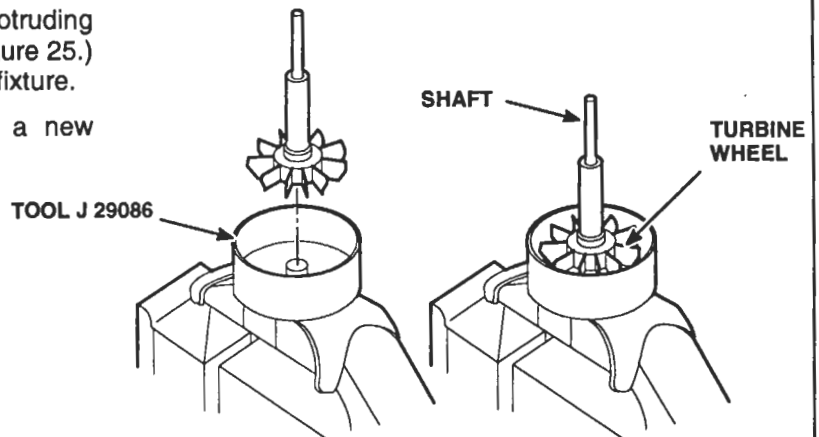

Figure 25. Shaft Assembly in Holding Fixture Assembly
2. Clamp the shaft holding fixture J 29086 in a bench vise. Place the shaft assembly in the holding fixture with the hexagon countersunk hole in the turbine wheel over the protruding hexagon head in the holding fixture (Figure 25.) If required, use the appropriate holding fixture.